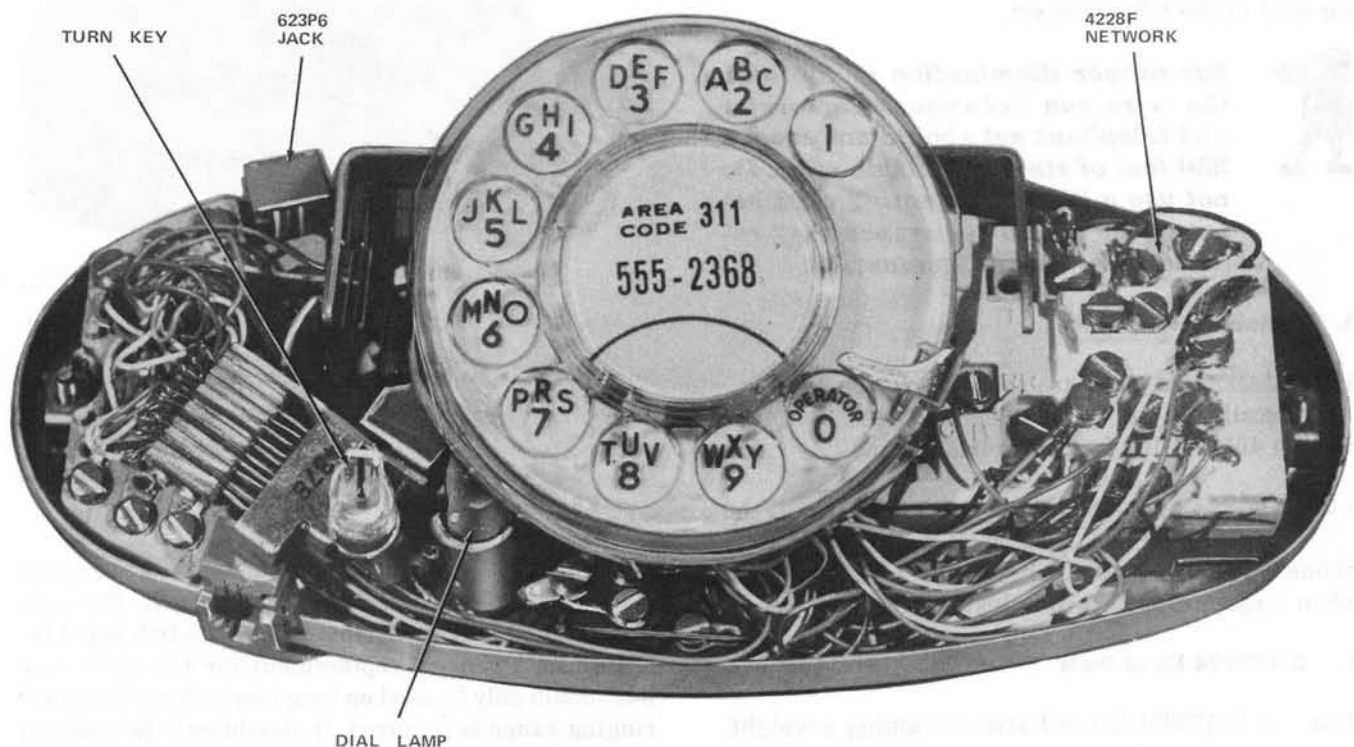

Fig. 4—713BM Telephone Set With Housing Removed
2.09 The 713BM (Fig. 4) telephone set is a modular PRINCESS telephone set and has the same features as the 713B (MD) set.